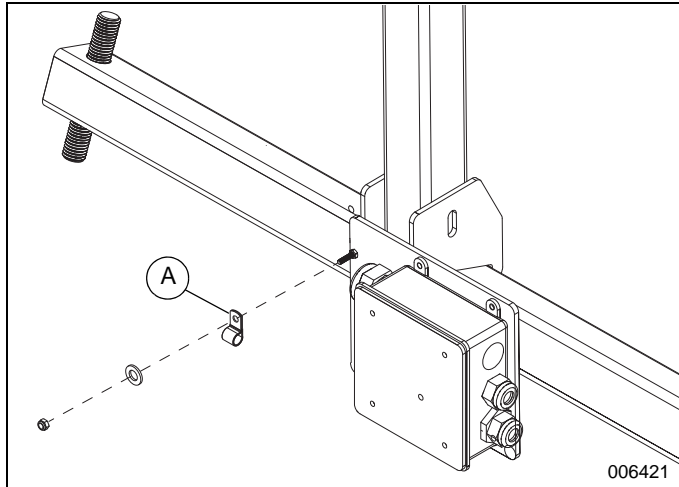

Figure 5. Tubing Clamp Removal
11. See Figure 5. Remove and retain tubing clamp (A).